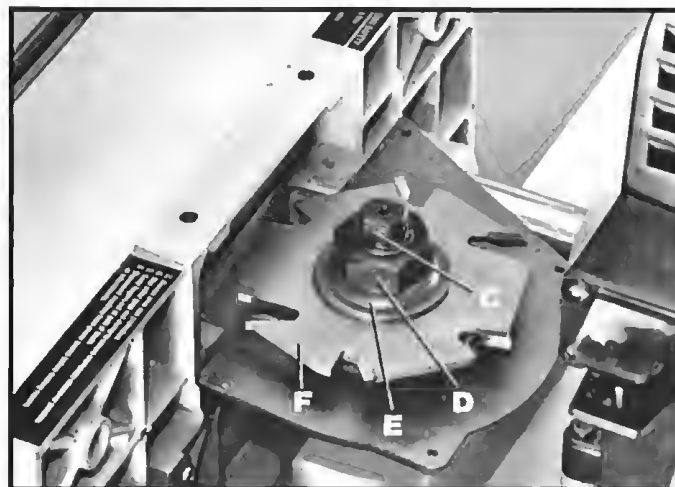

Fig. 32
3. Place open end wrench on flats (C) Fig. 32, of cutter arbor, to keep the arbor from turning, and remove arbor nut (D), flange (E) and cutter (F). **NOTE:** Turn arbor nut (D) clockwise to remove.
4. Assemble new cutter making certain the teeth of the cutter point to the right when looking straight down on the cutter and replace flange (E) and arbor nut (D) Fig. 32. **NOTE:** Turn arbor nut counterclockwise to tighten while holding flats (C) of arbor with wrench to keep arbor from turning.